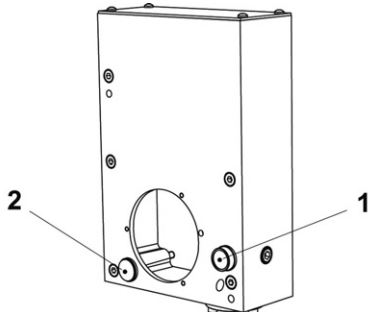

Figure 16 - Oil filling and level indicator, feed gear box
- The feed gear box's worm gear sits in an oil bath. Add oil via the filling hole (1) up to the middle of the level indicator (2), see figure 16. Approx. 0.3 liters should be kept available to cover the need.